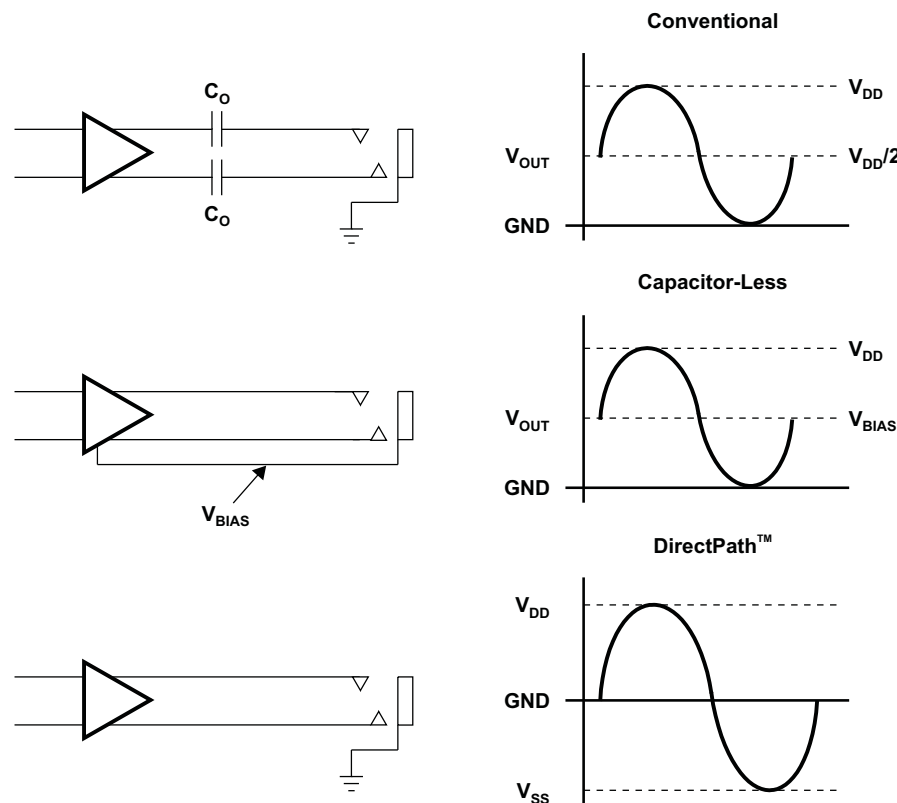

Figure 37. Amplifier Applications
The headphone amplifier has a fixed gain of –1.5 V/V. It uses single-ended (SE) inputs. The DirectPath™ amplifier architecture operates from a single supply but makes use of an internal charge pump to provide a negative voltage rail. Combining the user-provided positive rail and the negative rail generated by the IC, the device operates in what is effectively a split supply mode. The output voltages are now centered at zero volts with the capability to swing to the positive rail or negative rail. The DirectPath™ amplifier requires no output dc blocking capacitors and does not place any voltage on the sleeve. The block diagram and waveform of Figure 37 illustrate the ground-referenced headphone architecture. This is the architecture of the TPA6047A4.
Single-supply headphone amplifiers typically require dc-blocking capacitors. The capacitors are required because most headphone amplifiers have a dc bias on the outputs pin. If the dc bias is not removed, the output signal is severely clipped, and large amounts of dc current rush through the headphones, potentially damaging them. The left-side drawing in Figure 37 illustrates the conventional headphone amplifier connection to the headphone jack and output signal.
Two different headphone amplifier applications are available that allow for the removal of the output dc blocking capacitors. The capacitor-less amplifier architecture is implemented in the same manner as the conventional amplifier with the exception of the headphone jack shield pin. This amplifier provides a reference voltage, which is connected to the headphone jack shield pin. This is the voltage on which the audio output signals are centered. This voltage reference is half of the amplifier power supply to allow symmetrical swing of the output voltages. Do not connect the shield to any GND reference, or large currents will result. The scenario can happen if, for example, an accessory other than a floating GND headphone is plugged into the headphone connector. See the second block diagram and waveform in Figure 37.